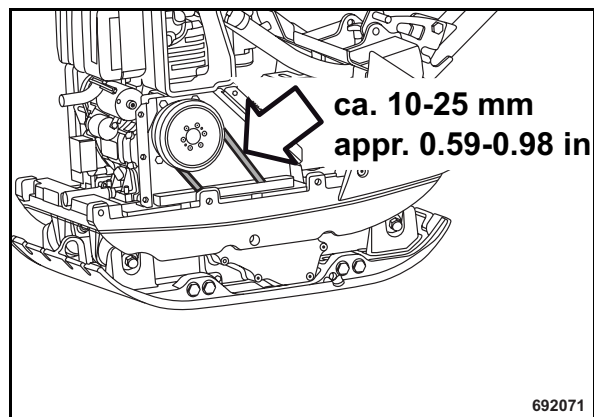

Fig. 55
- Check condition and tightness of V-belt (Fig. 55).